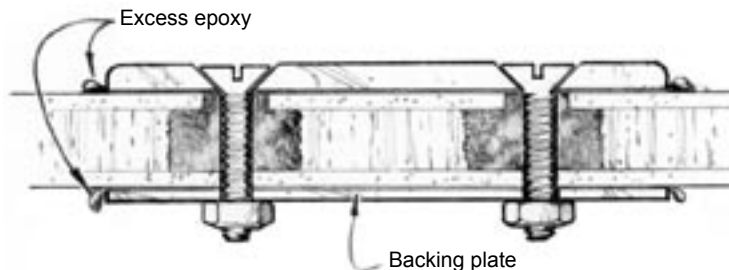

Figure 7-4 Tighten the nuts until epoxy begins to squeeze from the sides of hardware item and backing plate .
10. Place the backing plate over the bolts against the inner side of the panel. Tighten the nuts until epoxy begins to squeeze from the sides of the hardware item and backing plate (*Figure 7-4*). Do not over-tighten the fasteners. Clean away any squeezed out epoxy mixture with a chisel-shaped mixing stick and remove the masking tape before the epoxy begins to gel. Allow the epoxy to cure at least 24 hours before applying load to the hardware. Allow more time in cool weather. Tighten the nuts completely after the epoxy cures thoroughly.